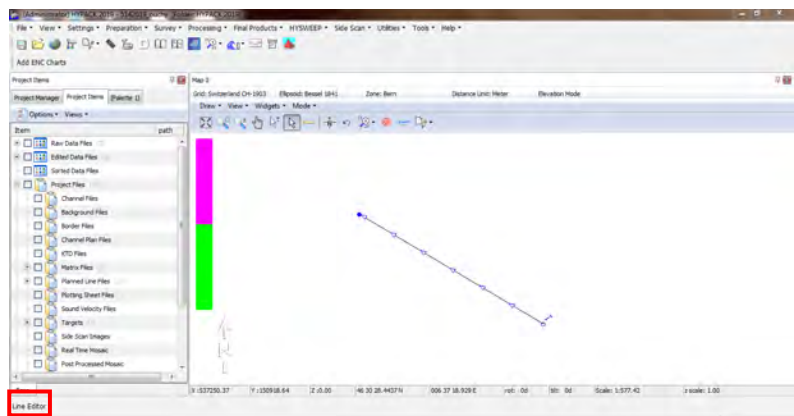

Figure 43: Single line path
- Draw one line inside the survey area limits (Figure 43)
- Re-open the "Line Editor" window clicking the icon on the lower left part of the display (Figure 43). Press "Offsets" button on the Editor Line menu